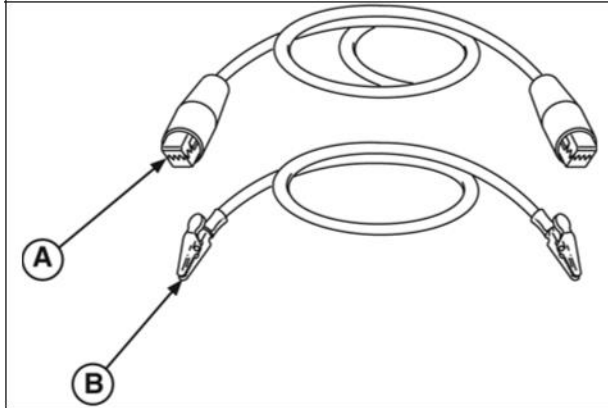

Figure 47
1. Remove nut and field coil wire from stud terminal (Figure 47).